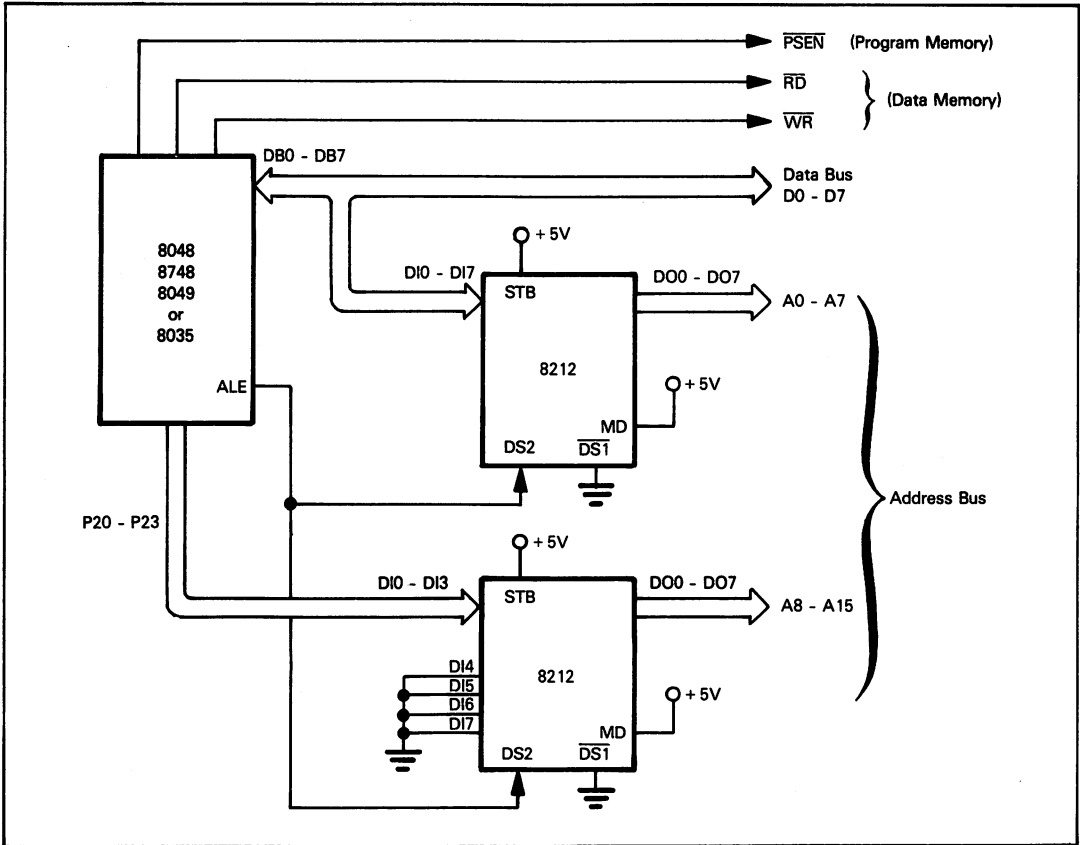

Figure 6-10. Demultiplexing DB0 - DB7 to Create Separate Address and Data Buses
Figure 6-10 shows how you can connect standard memory devices to an 8048 series microcomputer.
In order to attach standard memory devices to an 8048 series microcomputer, you must demultiplex the DB0 - DB7 lines to create separate Data and Address Busses. Figure 6-10 shows how to do this using two 8212 I/O ports. 8212 I/O port operations are described in Chapter 4. In Figure 6-10 the 8212 I/O ports are being used as simple output ports without handshaking. By tying STB and MD high, the 8212 I/O ports will output whatever is being input while the device is selected. We use the ALE signal to complete selection of the 8212 I/O ports; thus while ALE is high the two ports are selected.
**But there are a few subtleties associated with Figure 6-10.**